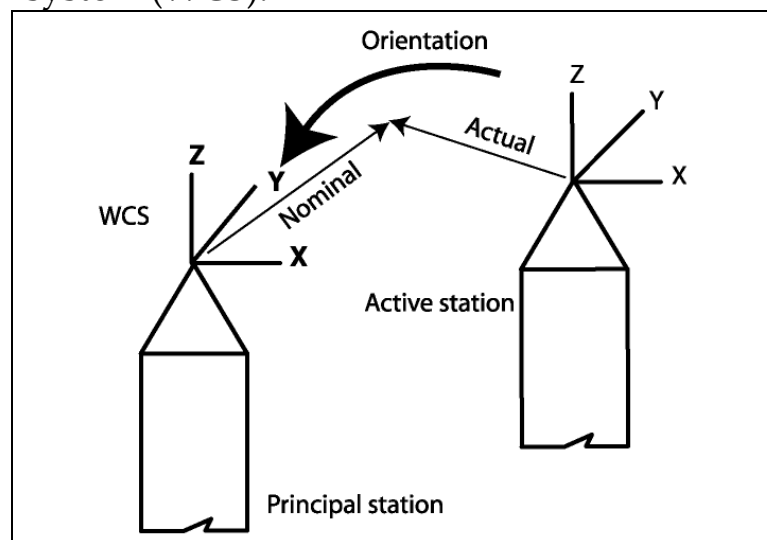

Fig. 1
- **Orientation** – (Fig. 1 & Fig. 2) Alignment of a tracker with respect to a world coordinate system (WCS). The world coordinate system is either defined at a principal